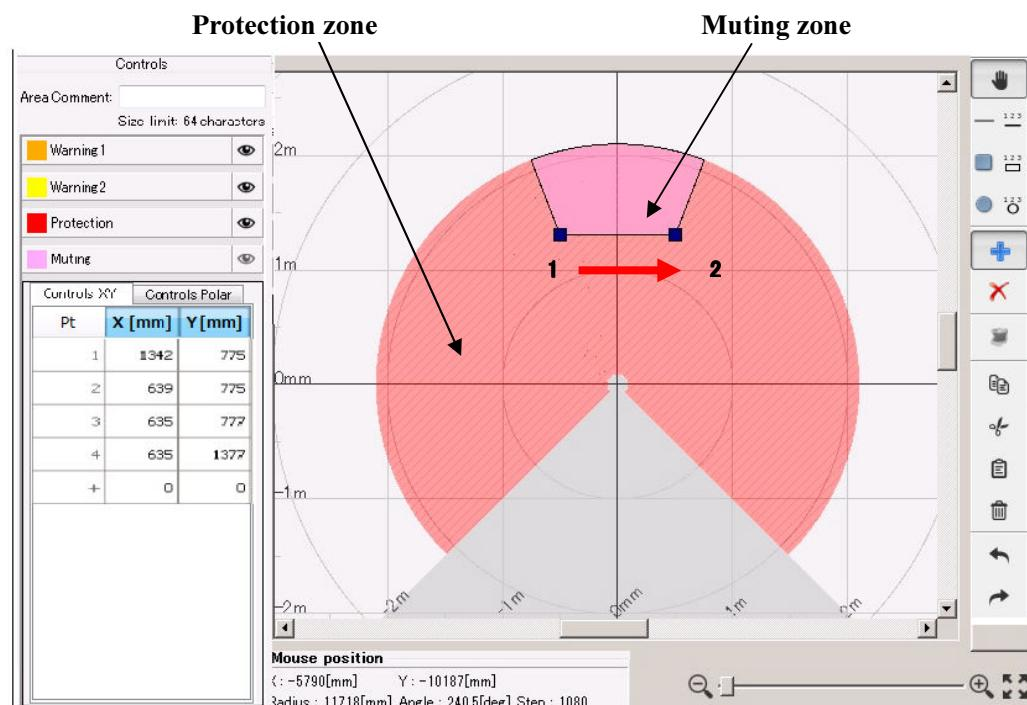

Figure 7-47 Muting zone configuration example
- Figure 7-47 and 7-48 shows an example of the muting zone configuration. Region in pink represents the muting zone.